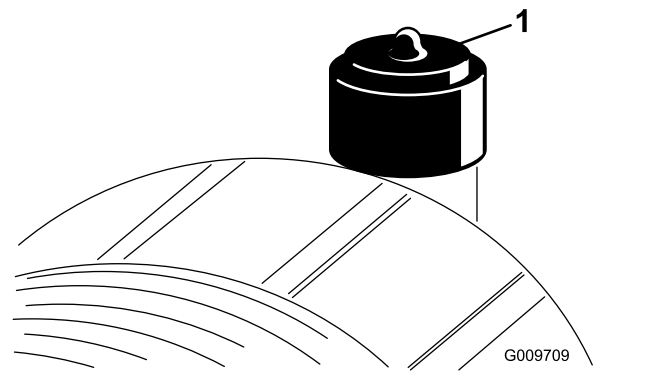

Figure 52
Service the air-cleaner element only when the restriction indicator (Figure 52) requires it. Changing the air cleaner element before it is necessary increases the chance of dirt entering the engine when you remove the element.
2. Reset the restriction indicator (Figure 52) if it shows red.